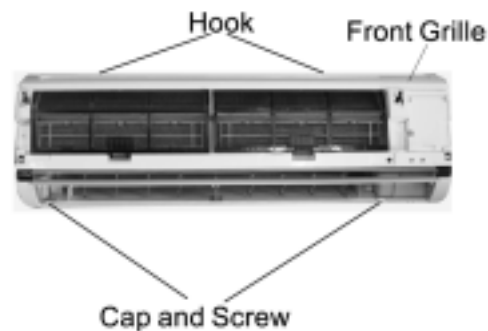

Fig 1
1. Remove the intake grille and two caps and screws at the bottom of the front grille. Then remove the front grille by releasing the 2 hooks at the top of the front grille. (See **Fig 1**)